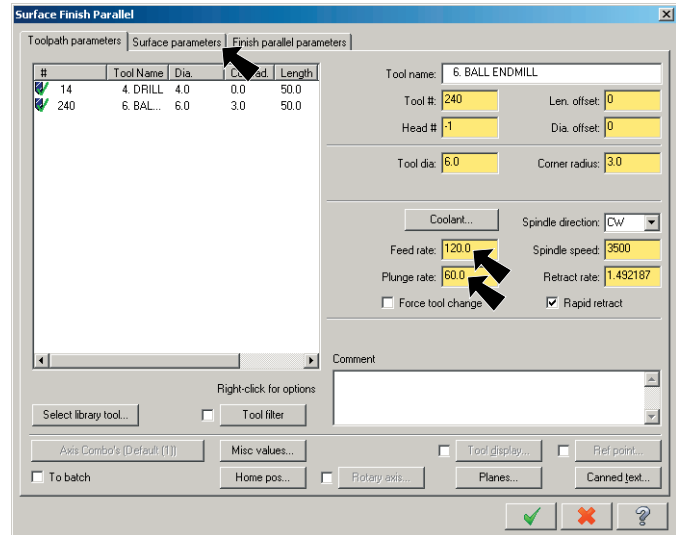

Fig. 43
Step 1. Set **Feed Rate: 120** and **Plunge Rate: 60** Fig. 43.
Step 2. Click the **Surface Parameters** tab at the top of the dialog box, Fig. 43.